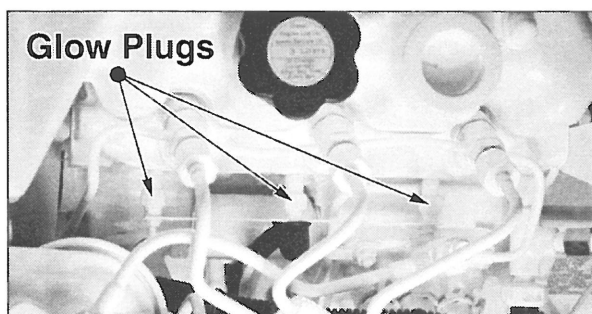

Figure 20: Glow plugs.
2. To check the glow plugs, loosen the current carrying flat wire between the plus-poles of the glow plugs (Figure 20). Connect a D.C. test bulb between the plus-pole of the battery and the plus-pole of the glow plug. If the bulb lights up, the glow plug is functioning properly.